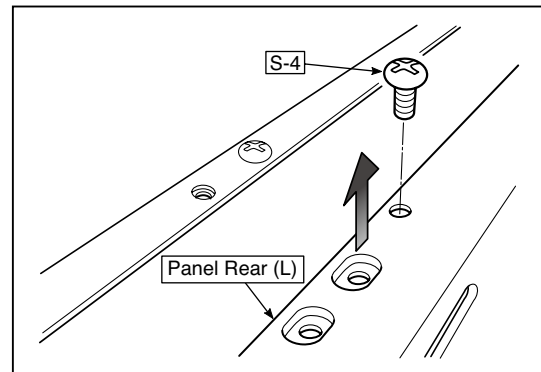

Fig.24
2. Remove the "S-4" screw shown in the figure 24 and then remove the Panel Rear (L).